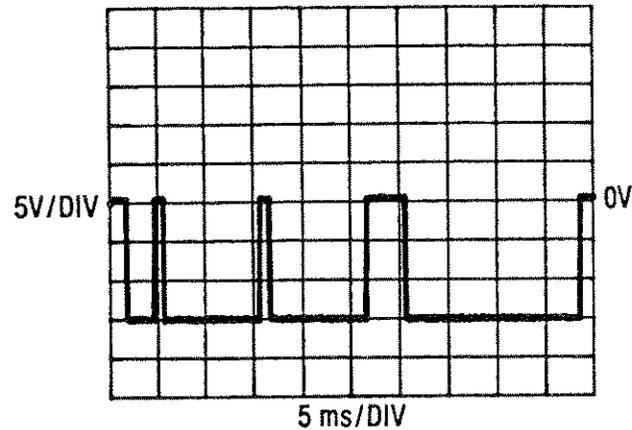

Figure 8-45. Ramp Start Gate Waveform
- Compare the waveform at A5U8 pin 7 with Figure 8-45.